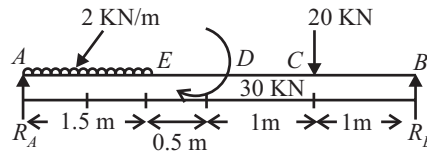

Fig. 12.10
Q.10: Draw the SF and BM diagram for the simply supported beam loaded as shown in fig. 12.10